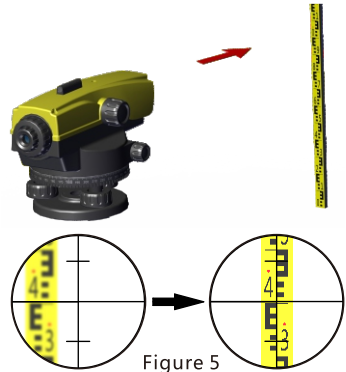

Figure 5
- ② Target the staff through peep sight. Rotate focusing knob to make the staff image being clear. Coincide vertical hair with the middle of the staff.(Figure 5)
- ③ Move your eye sight right, left, up and down. If staff image and reticle hair remains still, you can start work.